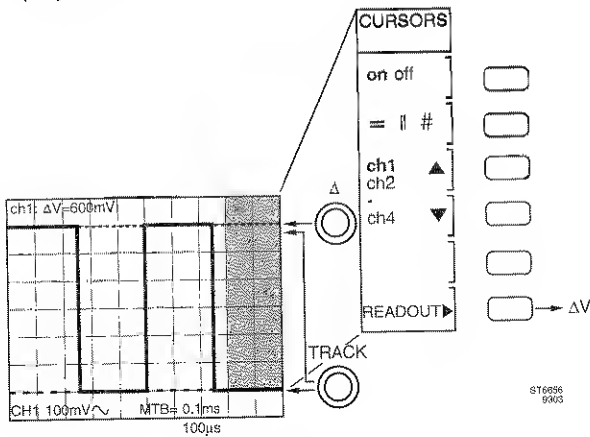

Figure 3.10
- Use the  $\Delta$  control to position the dotted line exactly on the top level of the waveform as shown in figure 3.10.